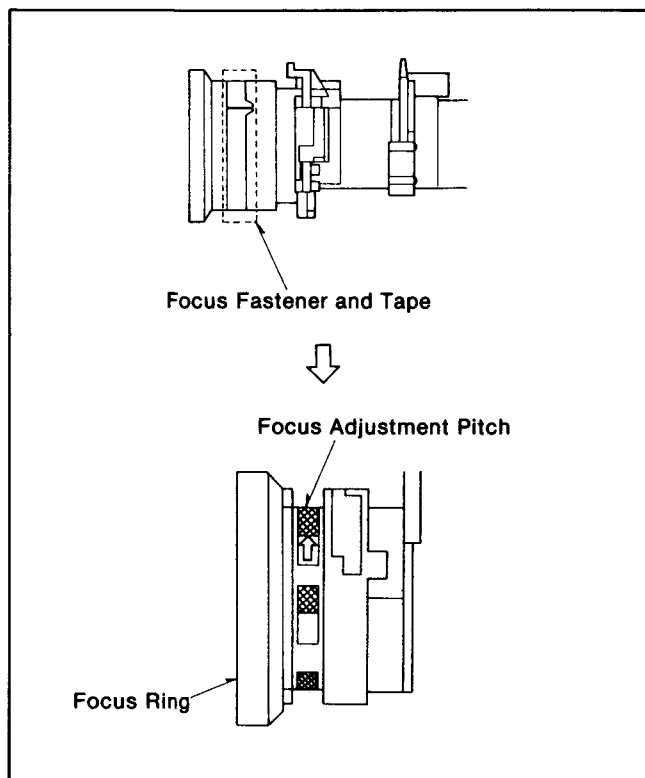

Fig.M2
- (1). Remove the camera unit from the VHS-C Movie.
- (2). Remove the C.B.As (Process, Auto Focus, Sensor) from the camera unit.
- (3). Unscrew the two screws (A) and remove the zoom motor.
- (4). Unscrew the two screws (B) and remove the encoder C.B.A.
- (5). Unscrew the screw (C) and remove the camera angle.
- (6). Remove the focus fastener and tape as shown in Fig.M2.
- (7). Remove the focus ring by turning the focus adjustment pitch to the counter clockwise.
- (14). Install the C.B.As (Process, Auto Focus, Sensor, Encoder) and zoom motor in reverse assembly order.
- (15). After installation of the focus ring, adjust the position of focus adjustment pitch and back focus pitch as follows.
- d. Adjust the focus adjustment pitch (refer to Fig. M2) to obtain the best focus and stick the tape (which was stuck on the unit before) on to the focus adjustment pitch (refer to Fig. M2).
- e. Install the focus fastener as shown in Fig. M2.